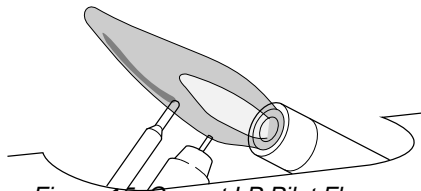

Figure 15. Correct LP Pilot Flame
2. Check to be sure that the pilot flame pattern is correct (see Figures 15 & 16).